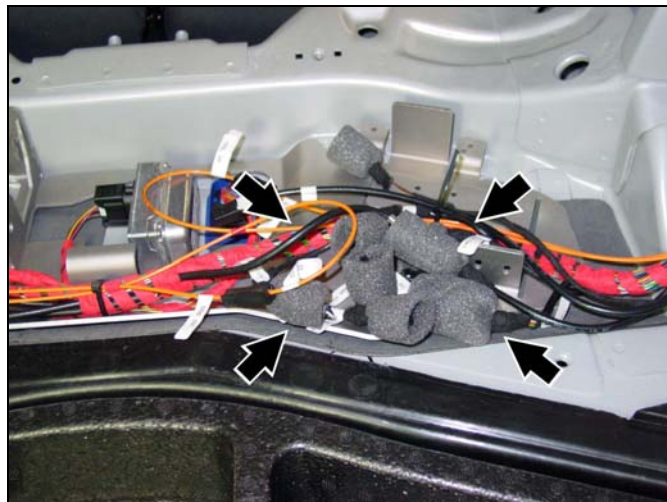

Figure 31
1. At the right side of the exposed trunk electronics compartment behind the rear seat, locate the foam-sleeve-covered connectors for the microphone array (Figures 31).